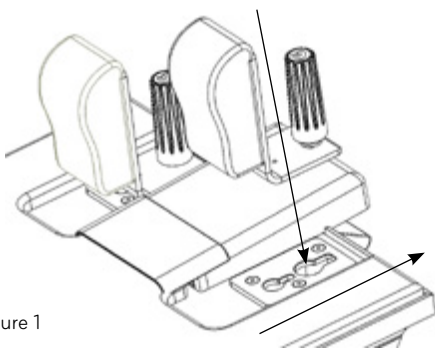

Figure 1
1. On the bottom of the shoulder rest brackets, there are protruding studs. These fit into the plate and secure the shoulder rest. Lower the shoulder rest so the studs fit into the key holes on the plate on the carriage. Slide the shoulder rest away from the carriage pad until it stops. See Figure 1.